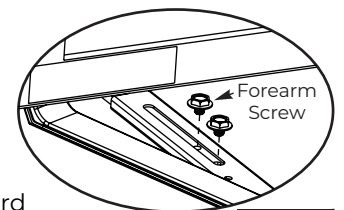

Figure 25
6. While holding arm in position, secure rod to adjusting tube with forearm screw. (Figure 25)